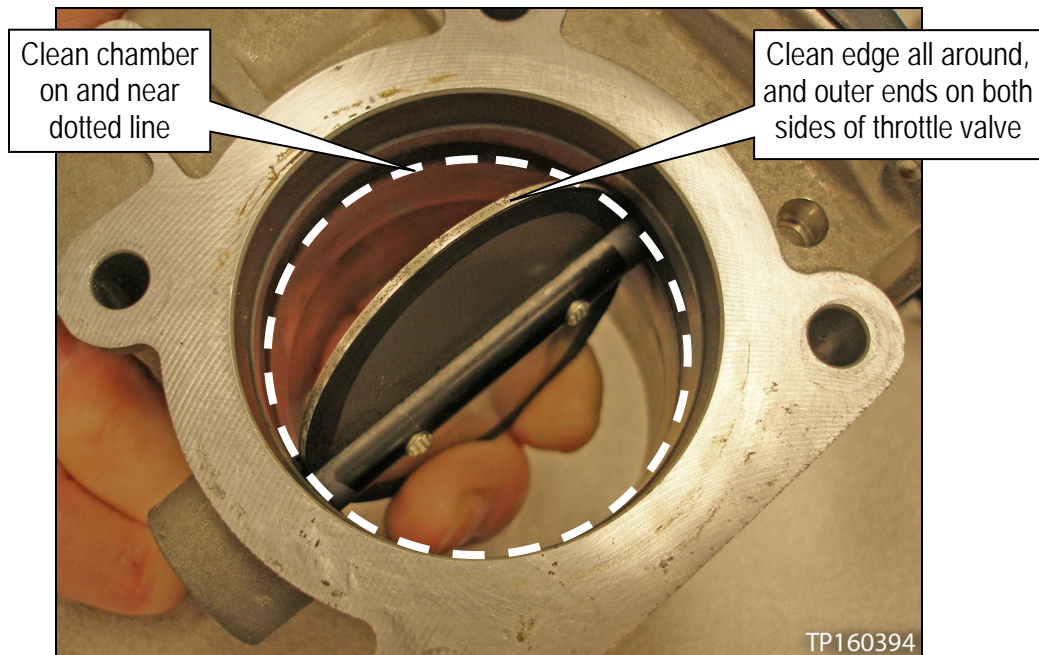

Figure 4
- c. Clean off the deposits from the edges and outer ends of the throttle valve (see Figure 4).